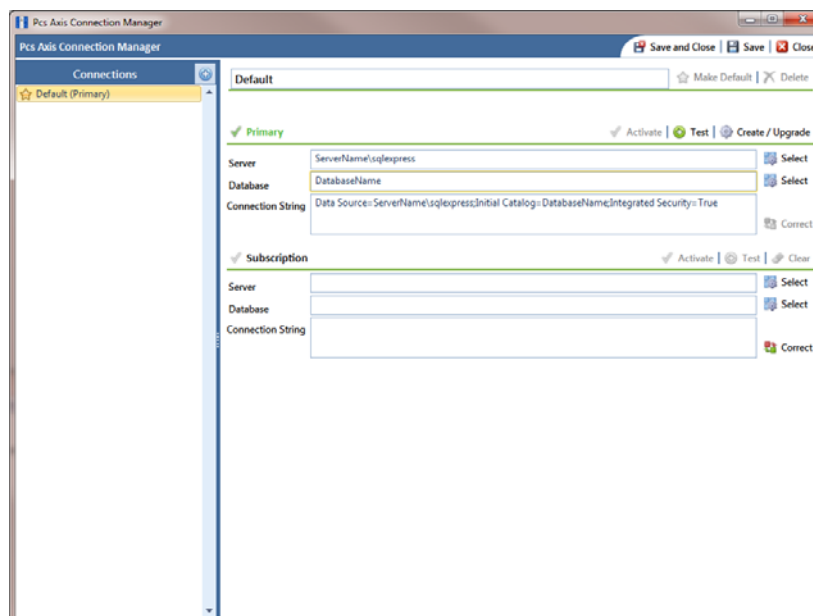

Figure 11-5. PCS Axis Connection Manager
- a Click the Windows **Start** button  and navigate to the program folder labeled *PCS Axis 1.5*. Select **PCS Axis Connection Manager 1.5** to start the program (Figure 11-5, page 490).